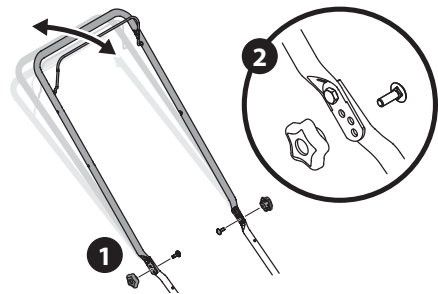

Figure 25
1. Remove wing nuts and carriage bolts from handle (Figure 25).
2. Position the handle in one of the three positions that is most comfortable (Figure 25, inset).